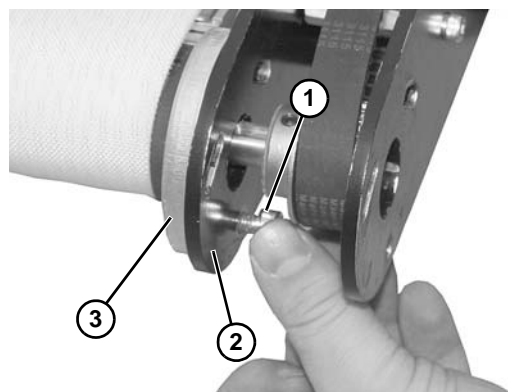

Figure 7
9. Install positioning screw (Figure 7, item 1) through round hole in rear plate (Figure 7, item 2) and into mounting plate (Figure 7, item 3).